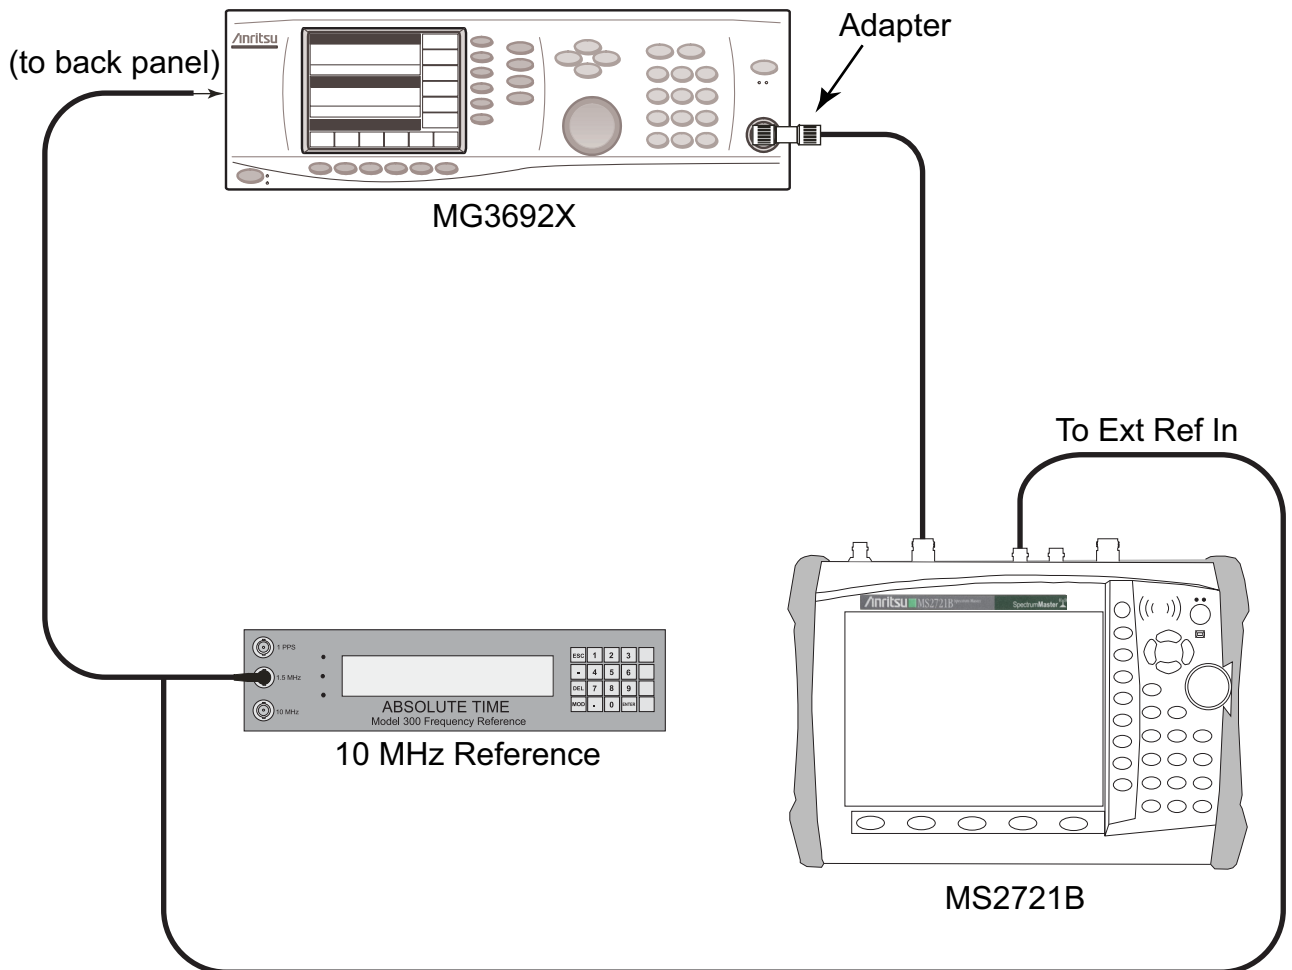

Figure 2-3. Spectrum Analyzer Resolution Bandwidth Accuracy Test Setup
1. Connect the external 10 MHz Reference to both the MG3692x Synthesized Signal Generator and the Spectrum Master MS2721B as shown in Figure 2-3.